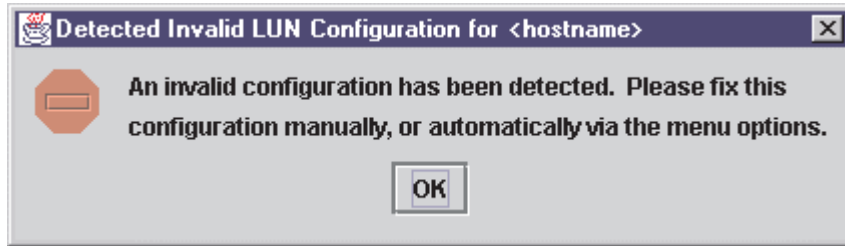

Figure 26. Detected Invalid LUN Configuration Error dialog window
- If FASTT MSJ detects an erroneous LUN configuration, the message shown in Figure 26 on page 92 displays. Click **OK** to continue.